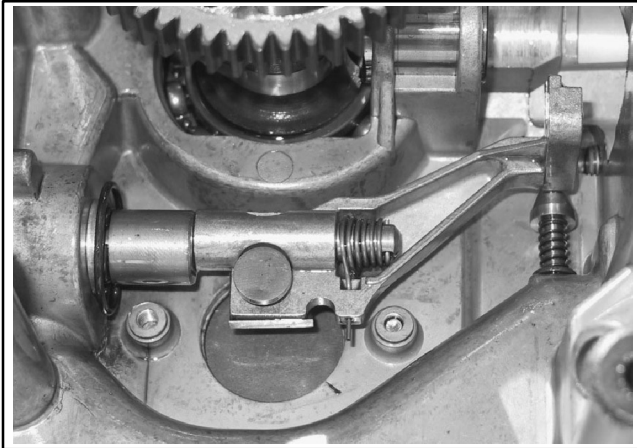

Figure 10-75 Eccentric Shaft
6. Guide the eccentric shaft through the bushing housing until it meets the inner control lever. See Figure 10-75.